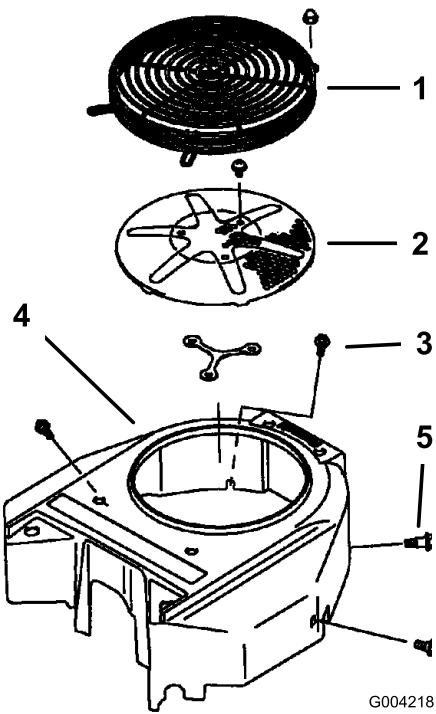

Figure 74
Before each use, remove any buildup of grass, dirt, or other debris from the engine screen. This helps ensure adequate cooling, correct the engine speed, and reduces the possibility of overheating and mechanical damage to the engine (Figure 74).
3. Remove the air-intake screen, the recoil starter, and the fan housing (Figure 74).
5. Install the air-intake screen, the recoil starter, and the fan housing (Figure 74).